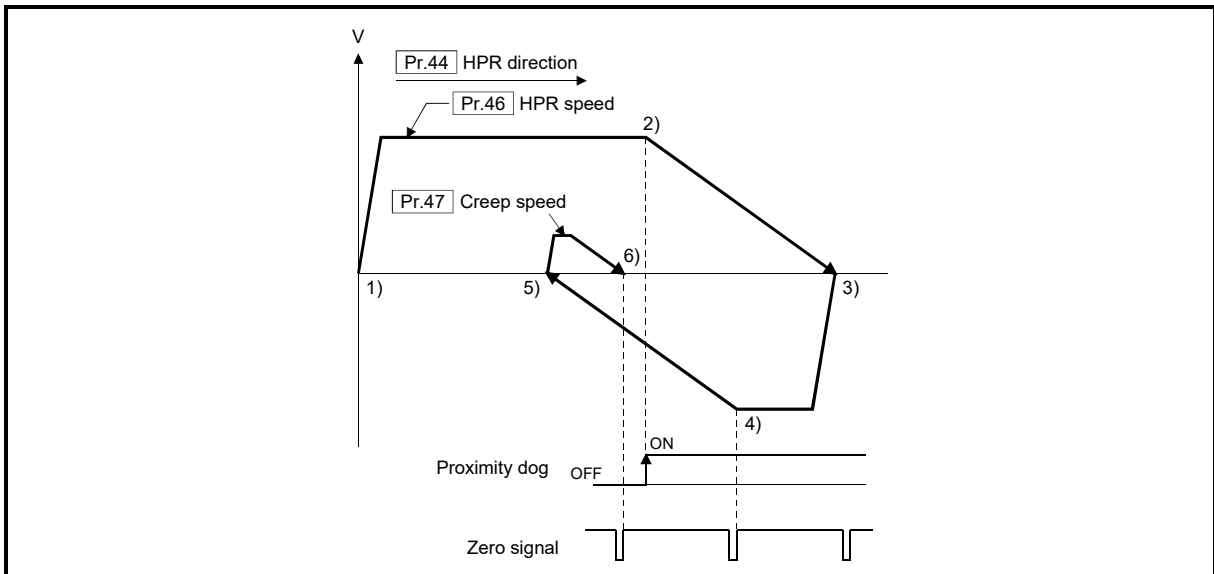

Fig. 8.13 Operation when the zero signal is detected again during deceleration with detection of zero signal
- (3) When the stop signal stops the machine HPR, carry out the machine HPR again. When restart command is turned ON after the stop signal stops the HPR, the error "HPR restart not possible" (error code: 209) will occur.
- (4) The HPR retry will not be performed regardless of setting set in "[Pr.48] HPR retry" in the scale origin signal detection method. When a hardware limit switch is detected during machine HPR, the error "Hardware stroke limit (+)" (error code: 104) or "Hardware stroke limit (-)" (error code: 105) will occur.
- (5) Position the proximity dog forward to overlaps with the hardware limit switch in direction of HPR. When the proximity dog is in the opposite direction against of HPR from the machine HPR start position, the error "Hardware stroke limit (+)" (error code: 104) or "Hardware stroke limit (-)" (error code: 105) will occur.
- (6) When the zero signal is detected again during deceleration ( 4) of Fig. 8.13) with detection of zero signal, the operation stops at the zero signal detected lastly to complete the HPR.